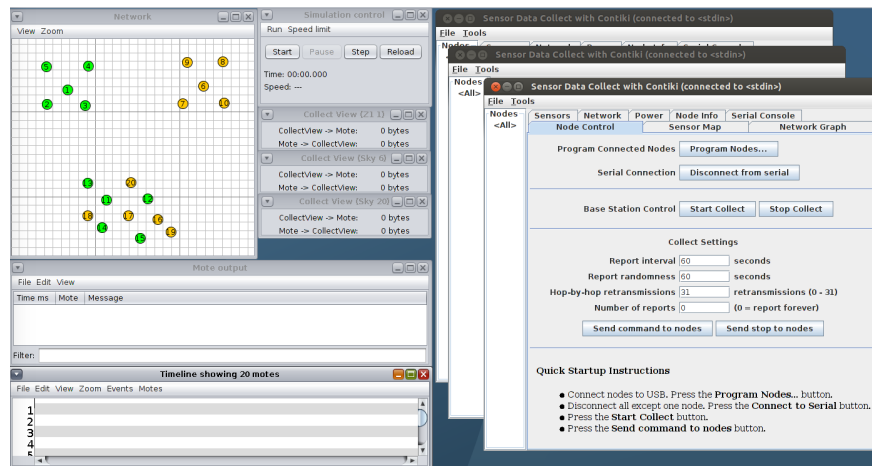

Fig. 1.
- Once the file has been loaded (see Figure 1), you will see two different kind of nodes in the *Network* window. Green nodes correspond to Z1¹ type motes and the red ones to SKY² type. The nodes are distributed in three groups at different locations. Additionally, you will observe three *Sensor Data Collect* windows, each of them corresponding to one of the three *Collected View*^{3,4} panels. *Sensor Data Collect* windows provides information of the interaction and performance of the nodes during the simulation. In this example, these windows give you insights about what is happening within the different node groups.